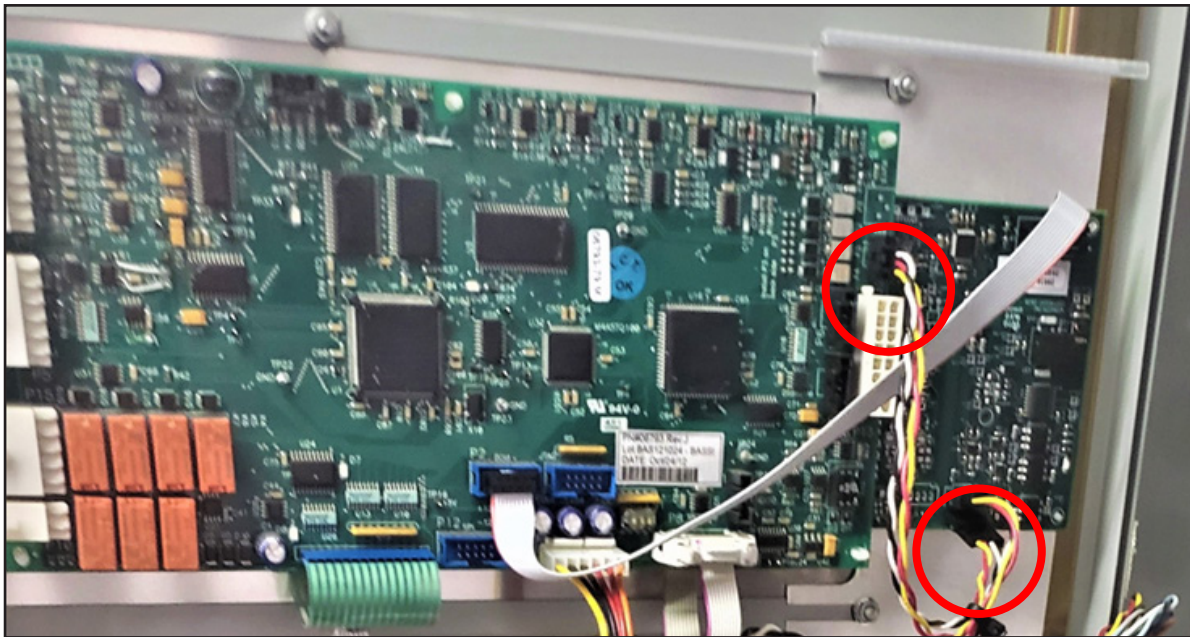

Figure 9 P101 Cable Connected from the J101 Connector on the CAN Board to the J2 Connector on the Channel A of DVS100/DVS150 Control Board
6. Connect the P101 cable from the J101 connector on the Channel A of DVS100/DVS150 CAN board to the J2 connector on the DVS100/DVS150 control board (Figure 9).